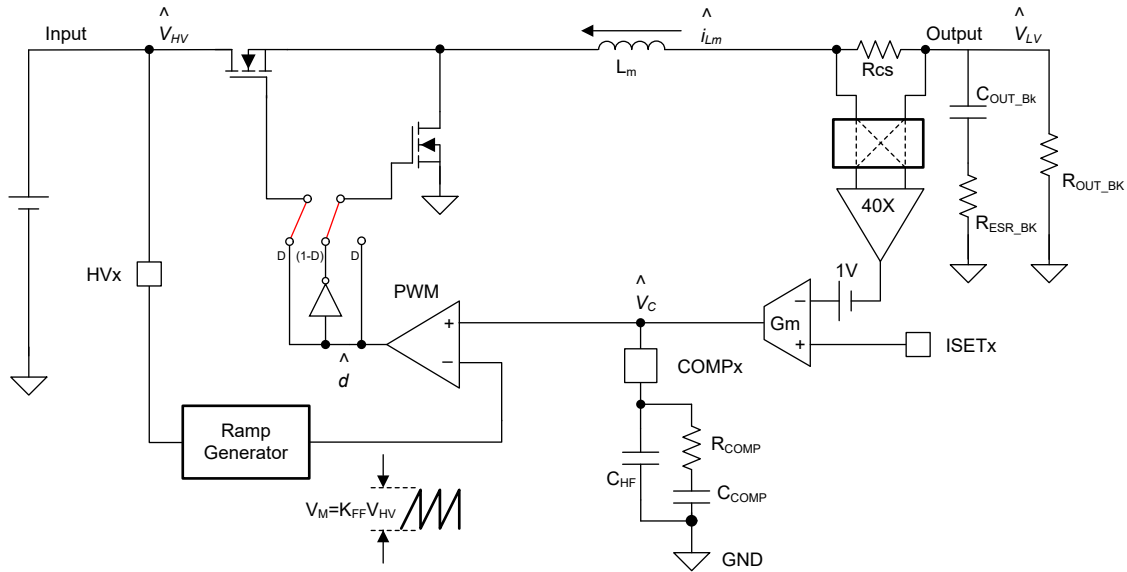

Figure 7-1. Buck Loop Block Diagram
Figure 7-1 shows the current loop block diagram of each phase in buck mode. V_{HV} is the input while V_{LV} is the output.
式 36 indicates that the power plant is basically a first-order system. A Type-II compensator as shown in 図 7-1 is adequate to stabilize the loop for both buck and boost mode operations.
- $Z_{COMP}(s)$ is the equivalent impedance of the compensation network seen at the COMP pin (see 図 7-1)